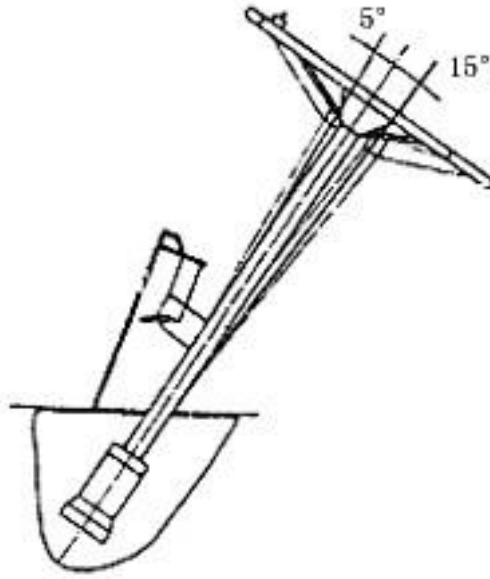
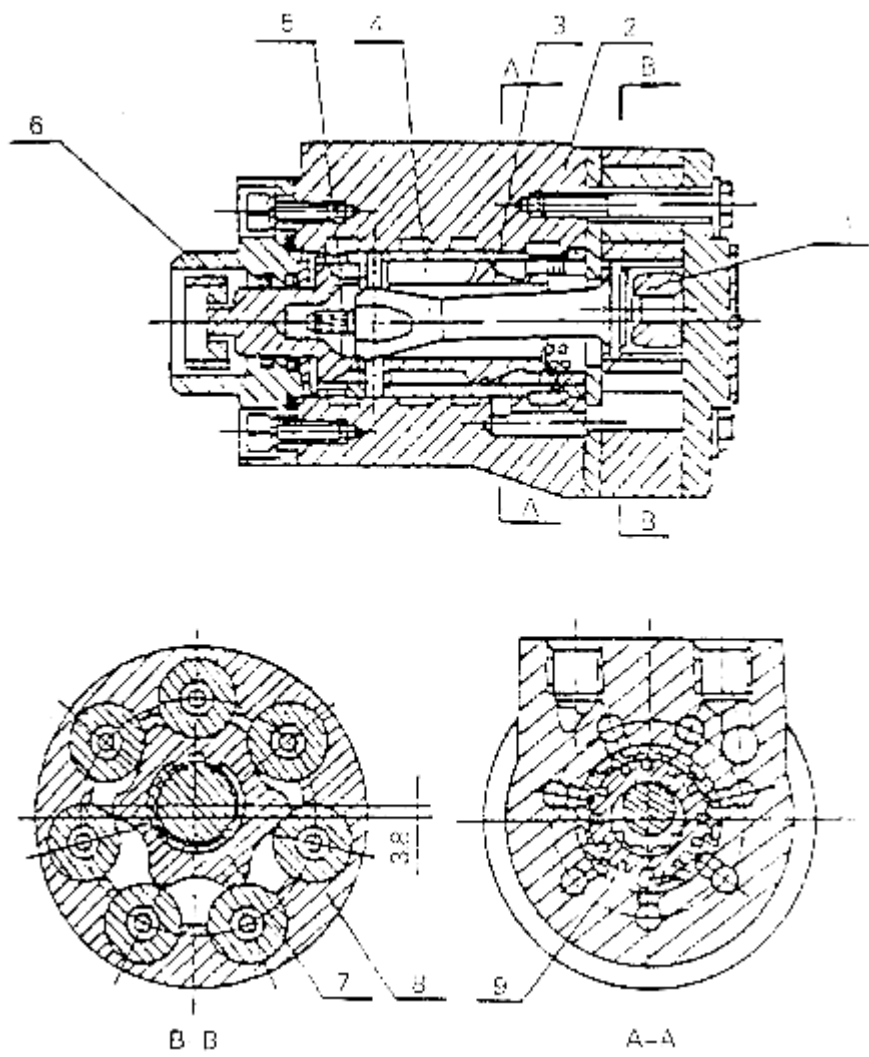

Fig 4-1 Orbitrol
Fig 4-2 Cycloid Fully Hydraulic Orbitrol
(1) Orbitrol (Figure 4-1)
The structure of the orbitrol is shown in Figure 4-1, and it mainly includes cycloidal full hydraulic orbitrol (see Figure 4-2), steering pipe column, connecting shaft and steering wheel; the steering pipe column and steering wheel can turn 5° forward and 15° backward to adapt to different needs of drivers; a horn button is arranged on the center of the steering wheel. The steering shaft through a universal joint is attached to the connecting shaft, and the connecting shaft is connected to the full hydraulic orbitrol.